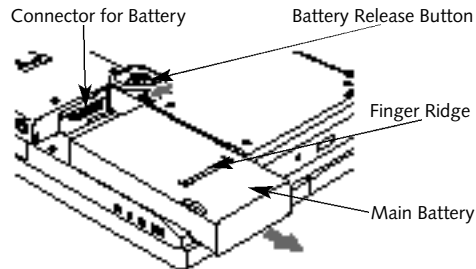

Figure 4-12 Removing and Installing a Battery in the Battery Bay
4. Slide the battery release button on the bottom right side of the battery bay to your right. (Figure 4-12.)
5. Align the grooves on the side of the battery with the tracks in the side of the bay. (Figure 4-12.)